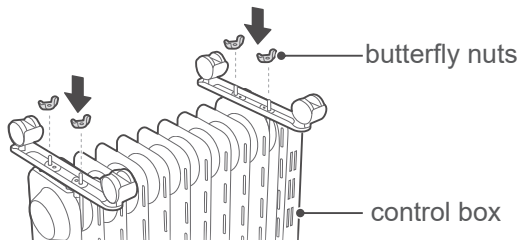

figure 2
3. As shown in figure 2, two sets of caster components are tightened with four butterfly nuts. Install solid and then put the heater in place-just put the wheels on the ground.